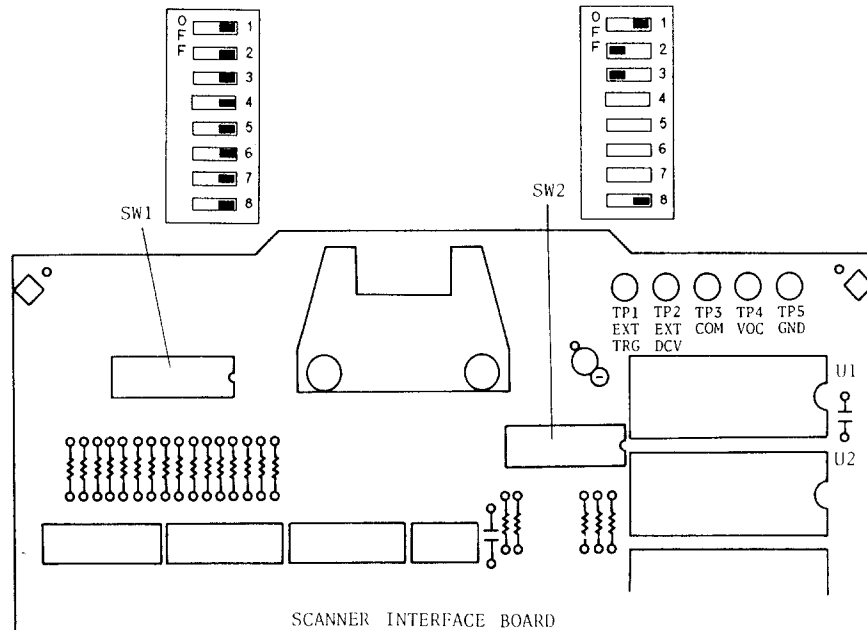

Figure 10-20. SW1 and SW2 settings
6. Set DC power supply output voltage +5 V. Connect TP2(GND) on the bias interface simulator to '-' terminal of the power supply. Then connect TP1 (Vcc) on the simulator to '+' terminal of the power supply. (refer to Figure 10-20)
7. Connect the scanner simulator to the scanner interface connector on the 4284A's rear panel as shown in Figure 10-20.